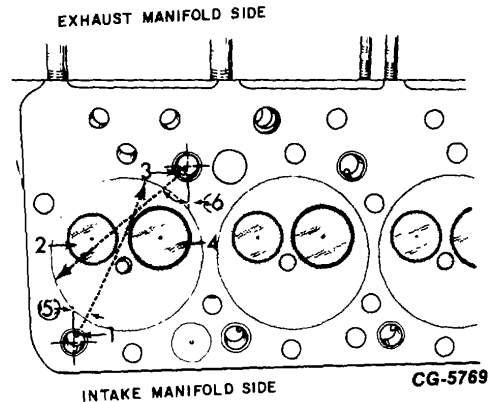

Figure 25. - Aiming Coolant Directors
- e. Aim coolant directors at angles shown in Fig. 25.